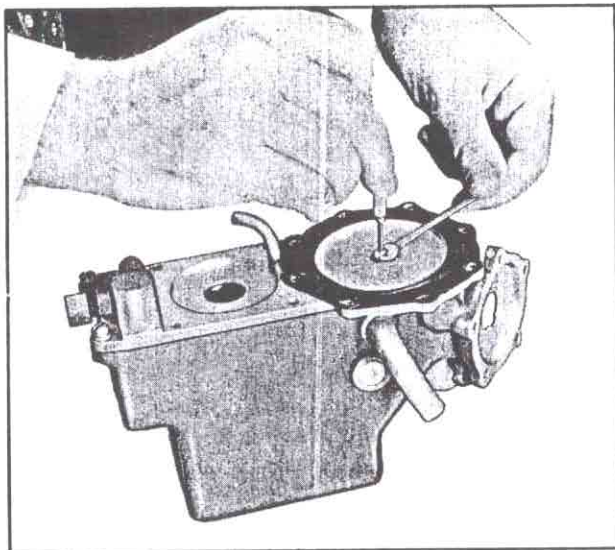

Fig. 151—Installing Main Control Diaphragm
10. Position main control diaphragm onto link, turn diaphragm so that elongated holes are centered on attaching holes in fuel meter and secure with diaphragm nut while holding link with a screwdriver as shown (fig. 151).